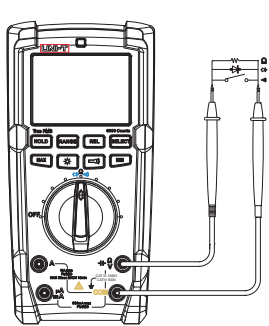

Figure 5a
9.3 Resistance and Circuit Continuity Measurement (See Figure 5a)
9.4 Diode Measurement (See Figure 5a)